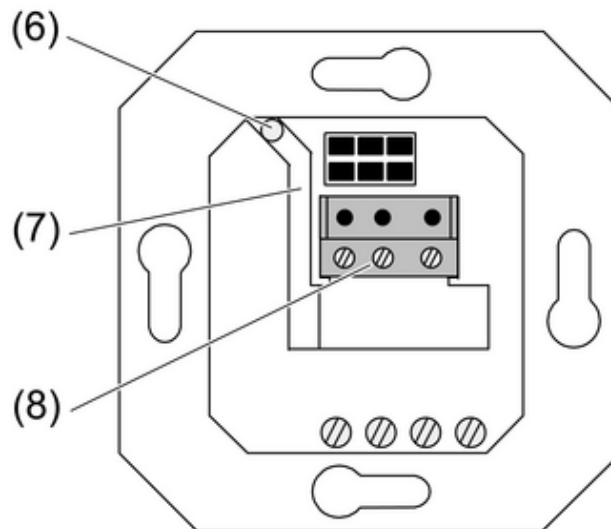
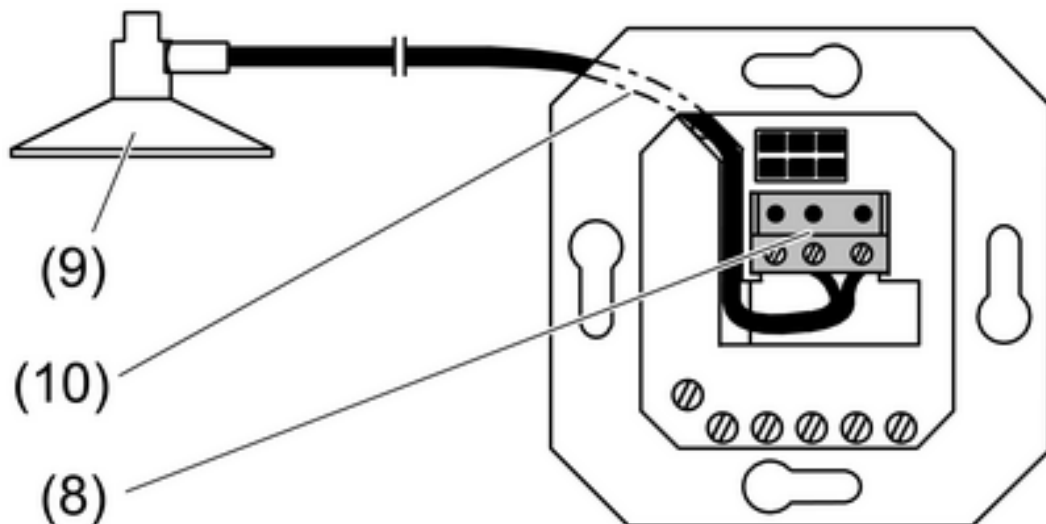
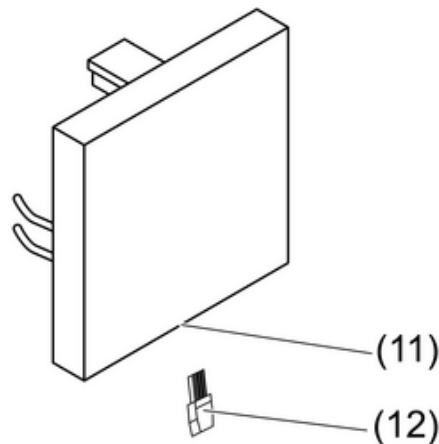

Figure 4: In-wall routing of the sensor cable
Figure 5: Surface-mounted routing of the sensor cable
Figure 6: Sun sensor on the cover
The sensor cable can be installed in three different ways. In-wall routing (Figure 4), surface-mounted routing (Figure 5), and with appropriate covers plugging the sensor cable into the cover (Figure 6).
- i** For in-wall routing of the sensor cable, use only shielded cables. Recommendation: J-Y (ST)Y 2x2x0.6 mm.
- Insert the cable through the hole (6) in the insert and route it through the cable duct (7) to the terminal block (8) (Figure 4).
- For surface-mounted routing of the indoor sensor (9), cut off the plug.
- Route the sensor cable behind the supporting plate (10) and through the cable duct to the connecting terminal (8) (Figure 5).
- Insert plug (12) into the socket of the insert (11) (Figure 6).